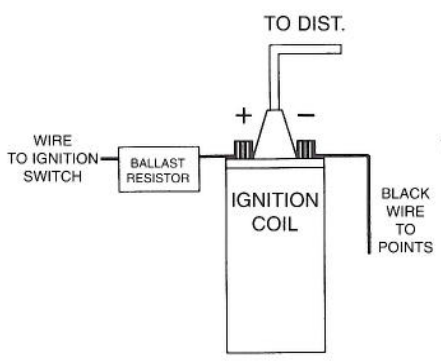

FIGURE 2
5. The **red** wire from the Ignitor must be connected to the **positive (+)** side of the coil, or a 12 volt switching power source. The black wire must be connected to the negative (-) side of the coil. (See Figure 2 & 3).
13. For installations that do not use a primary ballast resistor, connect the Ignitor red wire to the positive (+) side of the ignition coil. (See Figure 2).